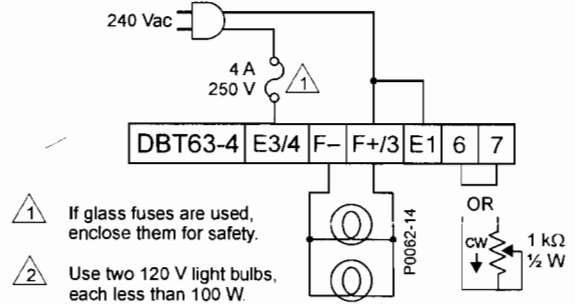

Figure 8. Test Connections
1. Connect the DBT63-4 as shown in Figure 8. Do not apply power. Ensure that the light bulbs are rated for 120 volts and less than 100 watts.